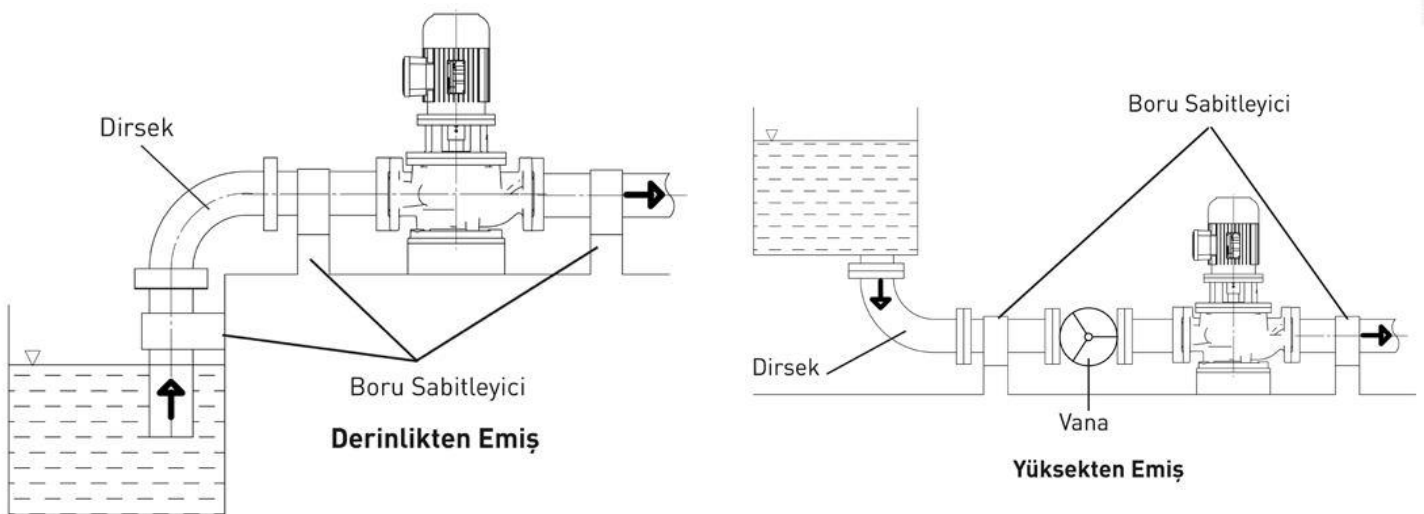

Figure 2
- Pipe system should be supported from points which are close to pump. Figure 2.